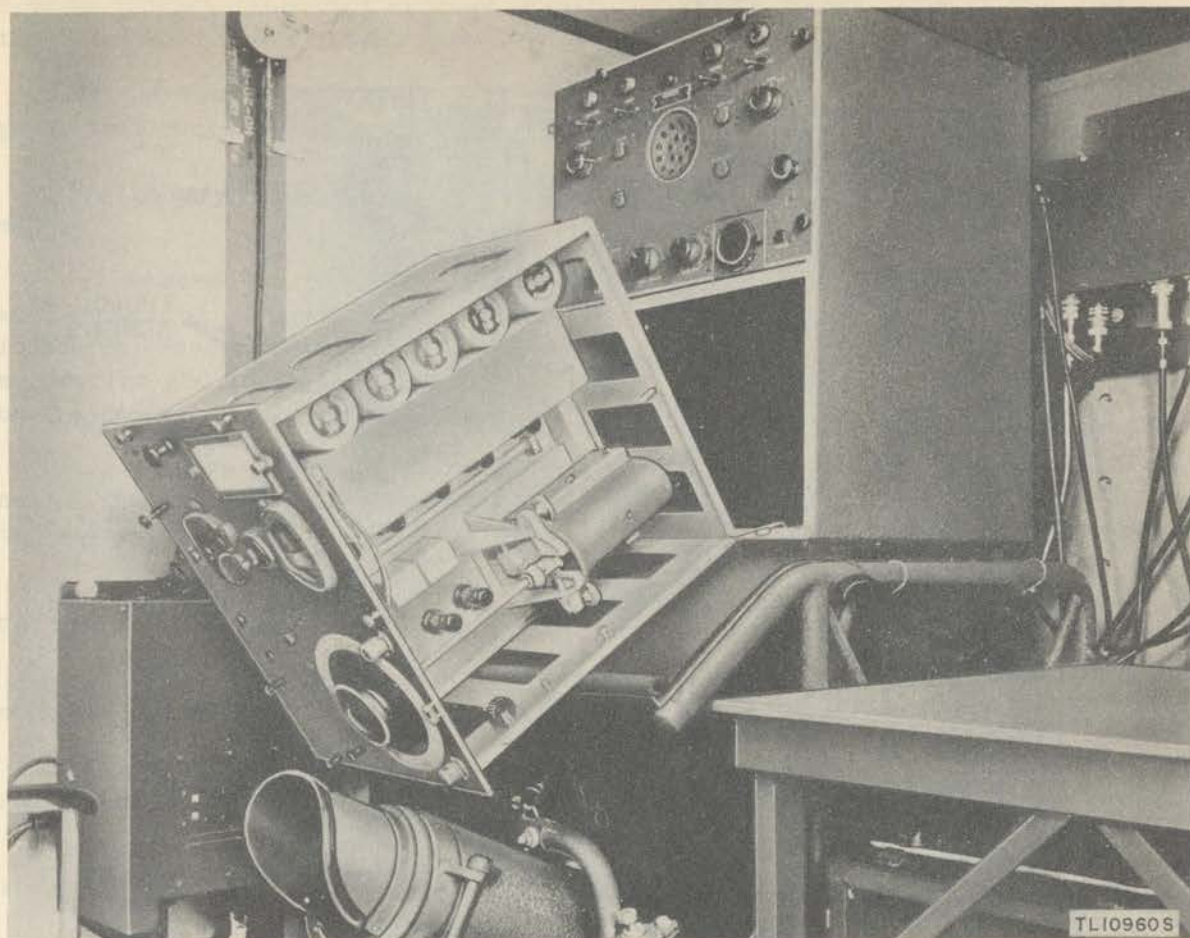

Figure 128. Radio Set AN/CRD-3 in position for servicing receiver assembly.
(1) With the equipment set up in its normal operating position remove the nuts on the upper shockmount of the automatic bearing indicator, and the pins on lower supporting rod and lower indicator on chain.
(2) Cover the indicator apron with canvas included with the tools and test equipment.
(3) Remove the hooks from the pocket and hook one at each edge on top of the mounting table.
(4) Remove all interconnecting cables from the modulator-receiver unit (the lower half or radio receiver).
(5) Loosen all captive screws and remove the unit from the cabinet.
(6) Place the unit in its left side on top of the apron using the hooks to hold it in place (fig. 128).
(7) Connect the cables to the unit as follows: